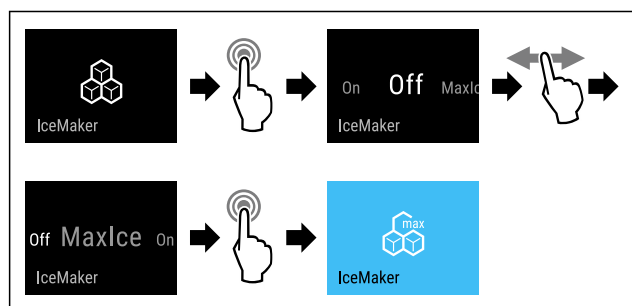

Fig. 17
- Complete the steps (see Fig. 17) .